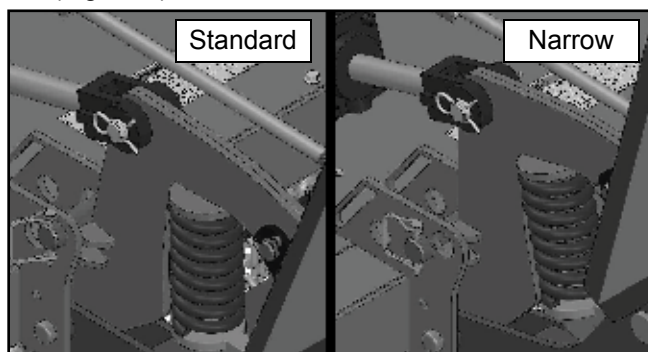

Figure 3. Transport Lock Pin in Standard & Narrow Width Positions
2. Remove klik pin and lock pin from storage position (Figure 3).
4. For width transport less than 10 feet, place lock pin in narrow transport position. See Figure 3.